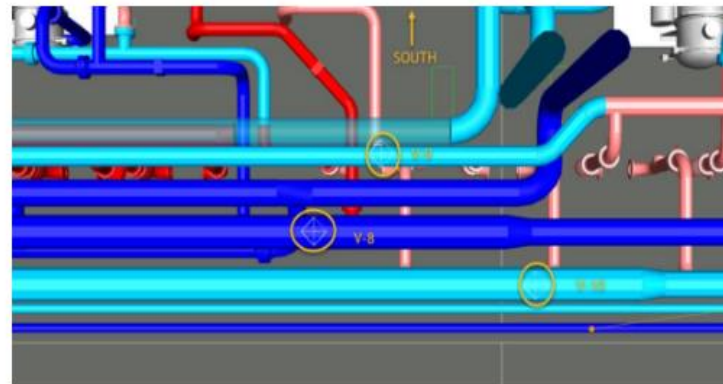

Figure 4: Location of new isolation header valves V-8, V-9 and V-10.
- Install header valves V-8 (30"), V-9 (18"), and V-10 (30") in this phase if time allows to minimize duration of temporary chiller use in Phase 2. These valves will be used in Phase 3 for partial plant isolation. (Figure 4)